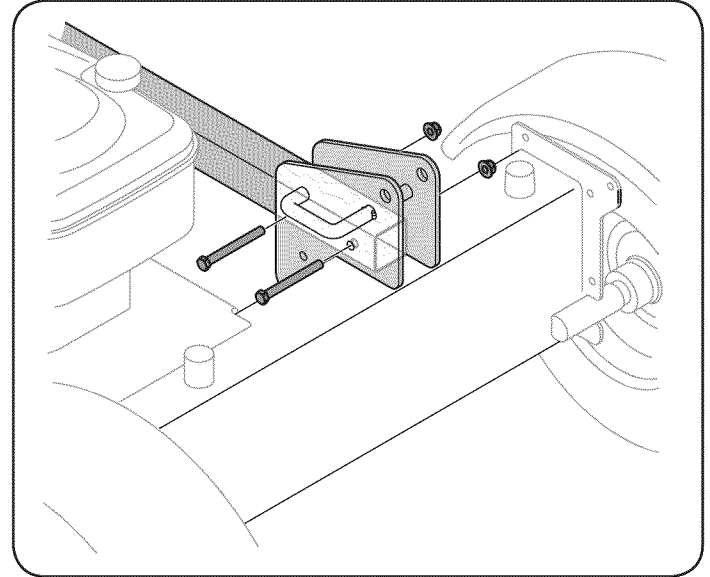

Figure 2
9. With the log splitter still secured to the bottom of the crate, remove two hex bolts and hex nuts from the tank bracket and remove the piece of wood inside the tank brackets. See Figure 2.
10. Align the holes in the tongue with the holes in the tank bracket and secure with the hardware just removed. See Figure 2.